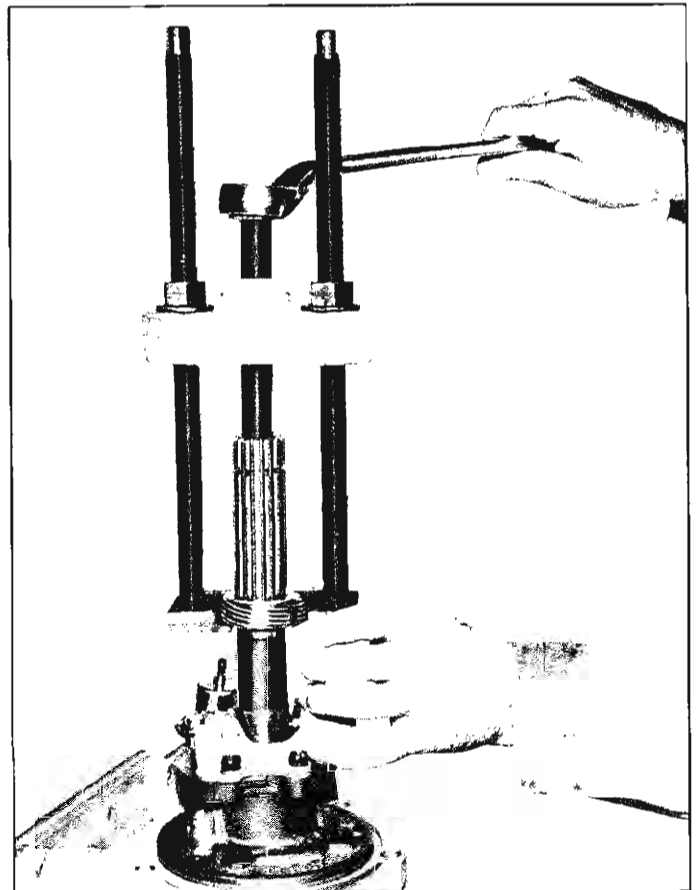

Fig. 7—Removing Speedometer Drive Gear
5. Remove the speedometer drive gear from output shaft, using J-5814 (fig. 7).